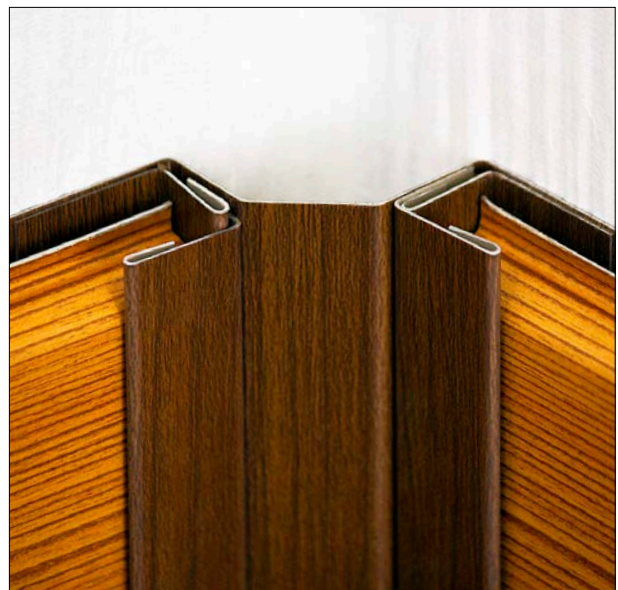

Fig.83
Step 7: Ensure that the corner pieces are snug and correctly aligned for your application (Fig.83).